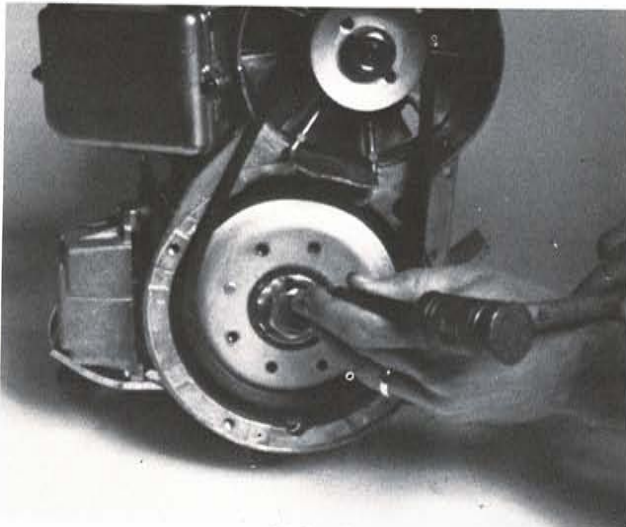

FIG. 13
11. Using a hammer and drift, bend locking tab away from fly wheel nut. (Fig. 13)